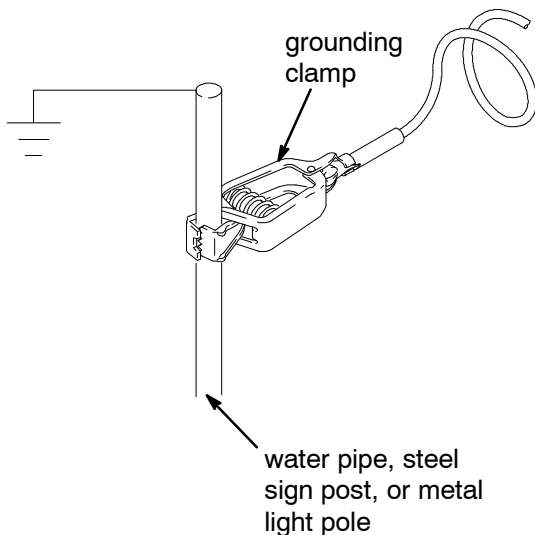

Fig. 8
1. Ground RoadLazer ground strap to earth ground. See Fig. 8 on page 14.
1. Ground RoadLazer with grounding clamp (A) to earth ground. Fig. 8.